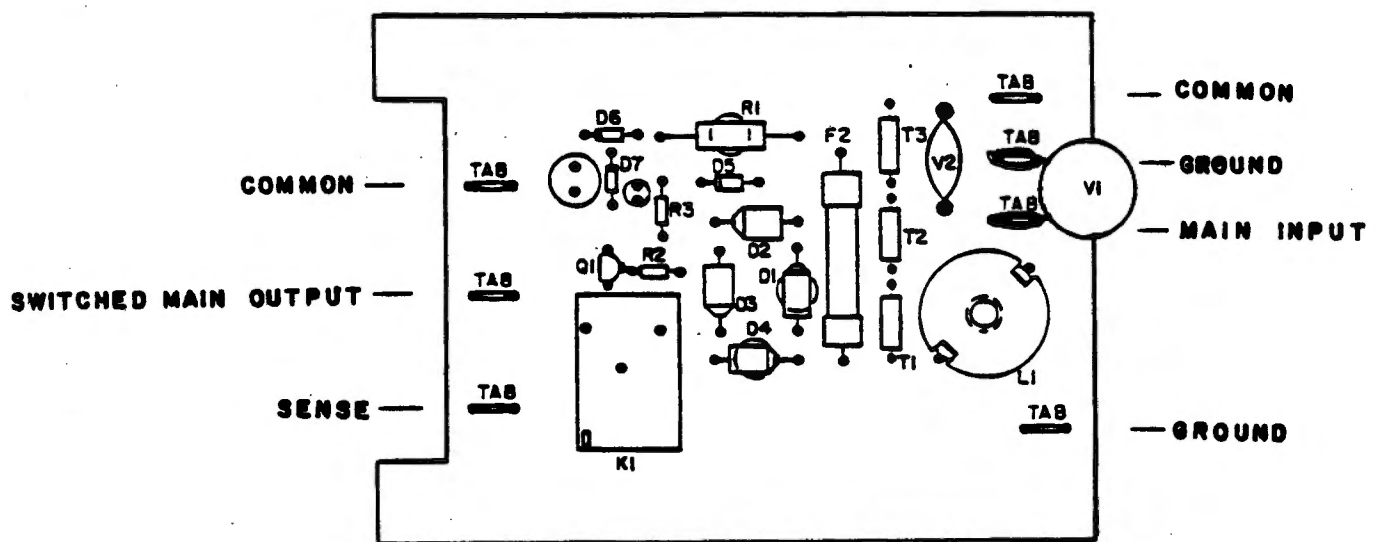

FIGURE 1
- 2) Install the new V2, S20K130, in the two holes vacated by removing V1 and V2. Take great care that the leads of V2 do not touch the GROUND tab. Use short pieces of insulating tubing if necessary. See Figure 1.
- 3) Install the new V1, S14K130, between the GROUND tab and the MAIN INPUT tab. Make sure that the leads are mechanically secure and as short as possible. Attach the leads as close to the circuit board as possible so that the push on connectors are not obstructed. See Figure 1.